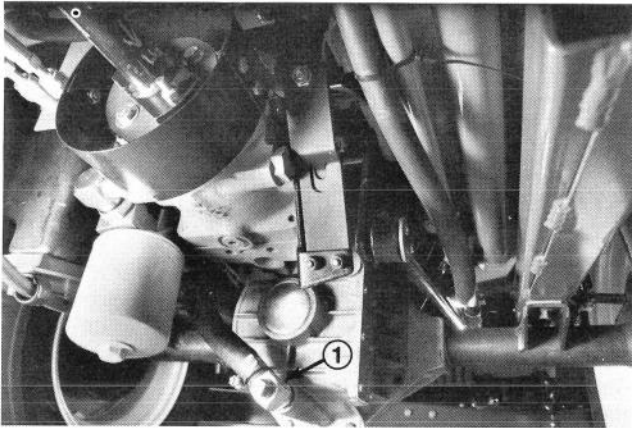
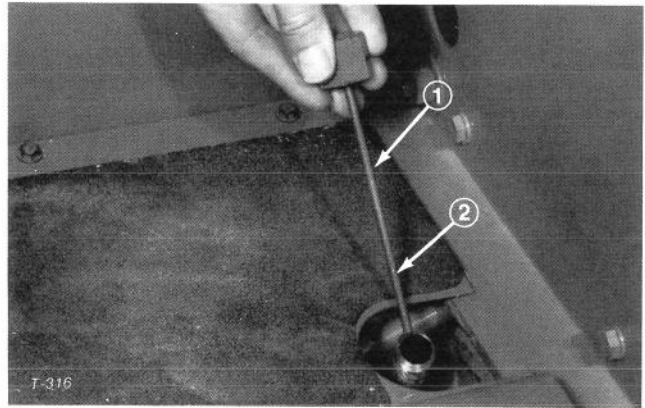

Figure 54
Figure 55
4. Remove drain plug from fitting between axle housing and oil filter and allow oil to flow into drain pan (Fig. 54).
6. Install drain plug in fitting between axle housing and oil filter (Fig. 54).
7. Remove dipstick from axle filler tube (Fig. 55) and fill axle to proper level with correct type and viscosity oil recommended for expected ambient temperature conditions; refer to table above.
9. Leave machine set for two additional minutes, then remove dipstick and check oil level in axle (Fig. 55). If level is low, add oil until level matches groove in dipstick (Fig. 55). If level is too high, remove drain plug (Fig. 54) and drain oil until oil level matches groove in dipstick.